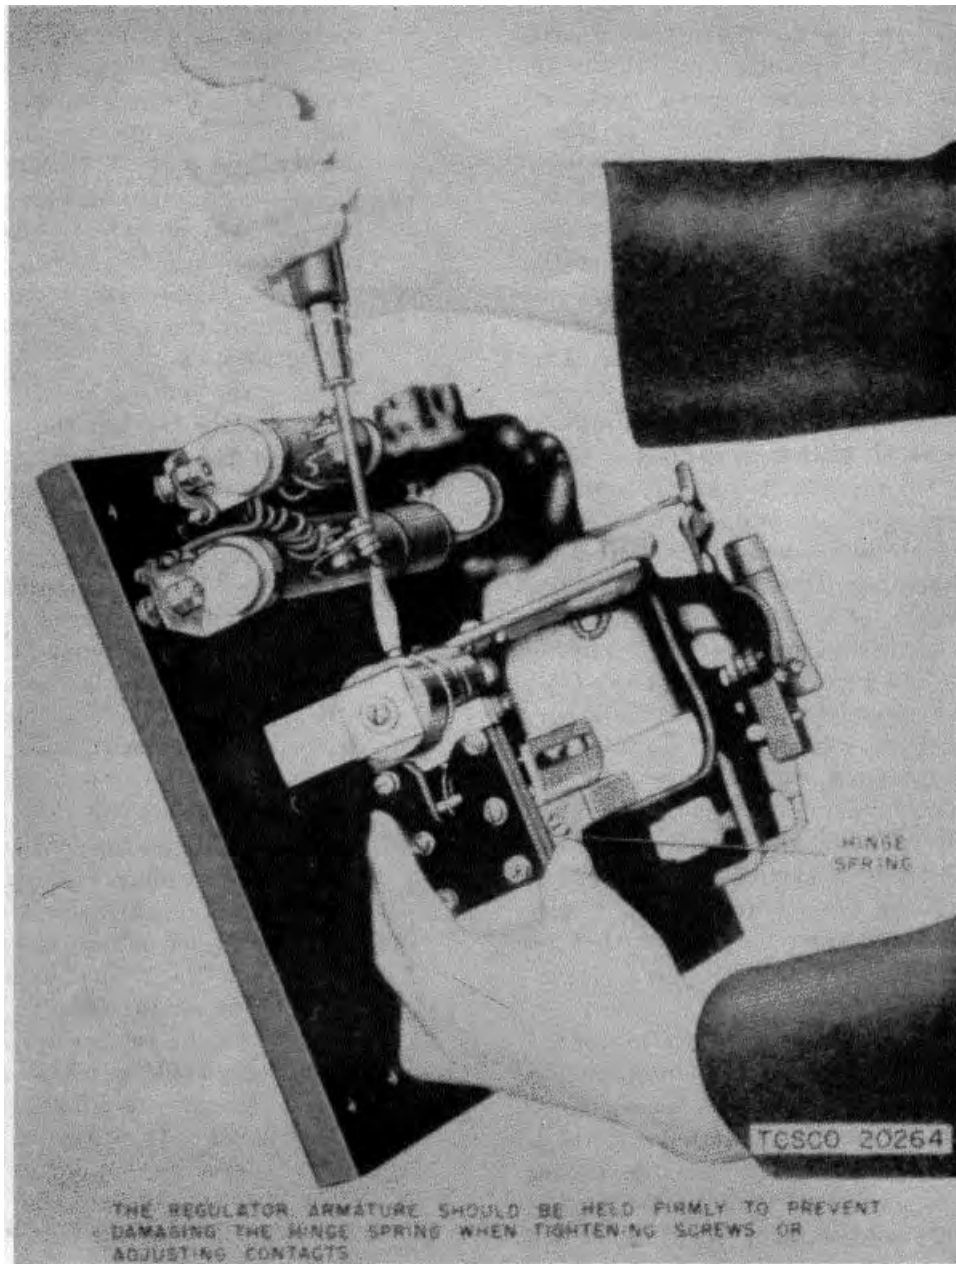

Figure 30. Method of holding regulator armature when tightening screws.
- (1) The sparking is fundamentally normal and will in time produce slight pitting on the graphite contact surfaces.
- (2) Adjust the contacts that have worn so that the gap between them is greater than one-eighth of an inch by moving the stationary contact outward by the use of one of the extra flat washers provided under the head of the contact holding screw. Mark the contacts before removing stationary contact so that it can be put back without rotating it with reference to the moving contact. After spacing the contact out or when new graphite contacts are installed, carefully sand to insure a good contact surface over the entire face. Use a strip of No. 00 sandpaper between the two surfaces while pressing the contacts lightly together.
- (3) Unnecessary and excessive contact sanding will only shorten the useful life of the contact and require more frequent renewal. The contacts should not be sanded until the contacts are to be spaced out by washers.
- (4) Replace the moving contact before the worn surface reaches the edge of the groove at the center of the contact. Replace the stationary contact when the worn surfaces are within 1/32" of the brass cylinder in the contact.
**When tightening or replacing the moving contact or tightening any of the screws in the moving armature assembly always hold the armature firmly with one hand while using the screw driver or socket wrench with the other. This is to prevent twisting the stainless steel hinge spring (fig. 30).**
- (5) If it should be necessary to replace the regulator coil, remove the regulator panel from the main panel and do the work on a workbench where the renewal of parts can be facilitated under adequate and suitable conditions. To remove the coil, remove the top screws holding the bottom plate of the frame to the core, and the single screw holding the plate to the panel. After removing the coil leads, it may be slipped off the core. When installing the new coil, see that the mating surfaces of the bottom plate and core are clean and free from burrs and that no shred of insulation becomes pinched between them. Never touch a file to these surfaces or the accuracy of the armature air gap will be lost. When replacing the bottom plate, set all three screws up fingertight, before finally tightening any of them with screwdriver.